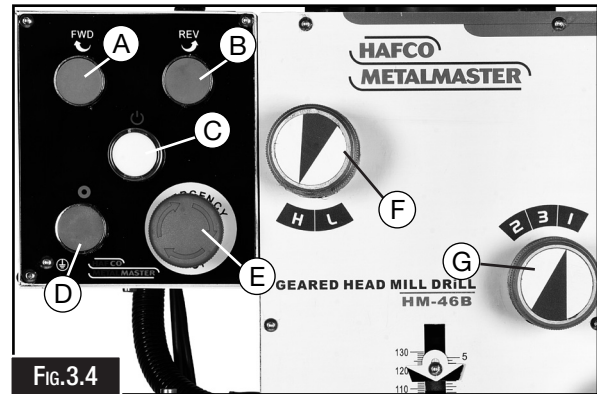

Fig.3.4
3. Press EMERGENCY STOP button (E in Fig3.4)
5. Twist EMERGENCY STOP button (E in Fig 3.4) clockwise until it pops out - this resets the button and enables the power to control panel and motor.
6. Press the SPINDLE FORWARD button (A in Fig 3.4). Spindle should rotate clockwise (as viewed from top) and machine should run smoothly with little to no vibration or rubbing noises.
7. Press STOP button (D in Fig.3.4) and wait for spindle to completely stop.
8. Press SPINDLE REVERSE button.(B in Fig.3.4) Spindle should rotate counterclockwise (as viewed from top).
10. Press EMERGENCY STOP button (E in Fig.3.4) and wait for spindle to completely stop.